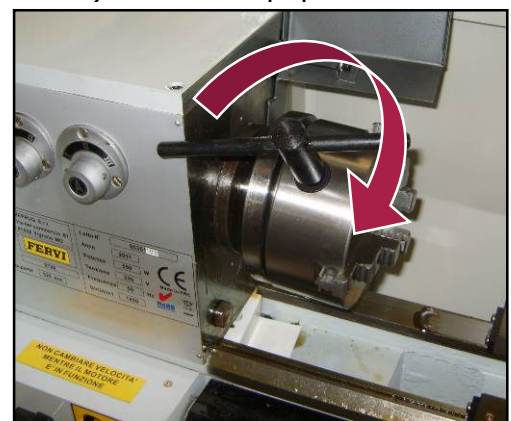

Figure 18 – Spindle key.
Insert the key into one of the holes with a square cross-section on the spindle, and to close the jaws, turn it clockwise (see Figure 18).
13. After waiting for the spindle to stop, lift the movable protective screen and remove the piece from the spindle itself, opening the jaws, with the appropriate key. For this purpose, insert the key into one of the holes with a square cross-section on the spindle (see Figure 18) and turn it anticlockwise.